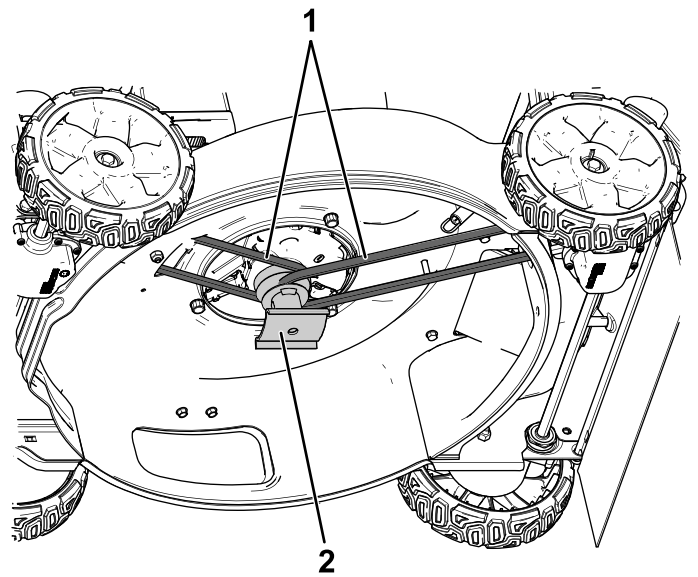

Figure 4
8. Remove both belts from the blade drive and then remove and retain the blade drive (Figure 4).